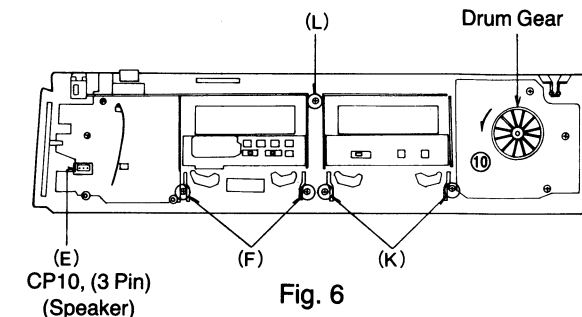

Fig. 6
1. Turn the Drum Gear all the way in the direction of the arrow 10. (See Fig. 6)